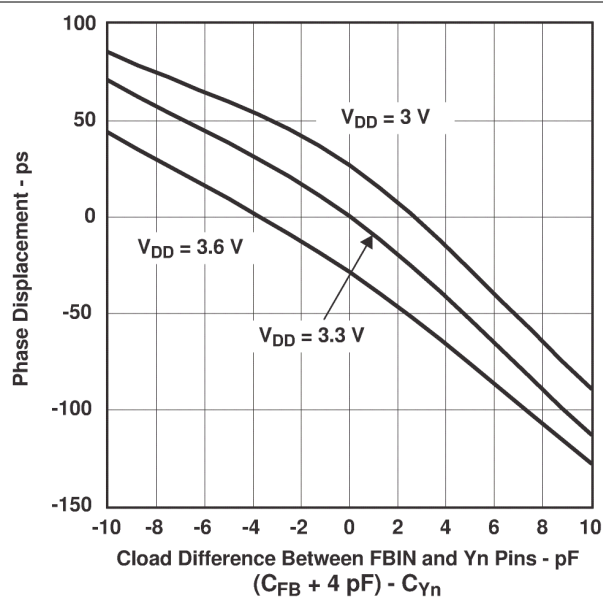

图 6-1. Phase Displacement vs. Load
(1) All typical values are at respective nominal V_{DD} .
(2) The $t_{\text{sk(o)}}$ specification is only valid for equal loading of all outputs.
(3) Similar waveform at CLKIN and FBIN are required. For phase displacement between CLKIN and Y-outputs see Fig 6-1.
图 6-1 captures the variation of the CDCVF25081 current consumption with capacitive load and phase displacement. 图 6-2 shows the variation of the cycle-to-cycle jitter across frequency.